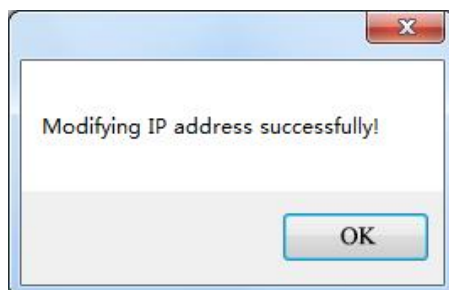

Fig.3.1.19 IP modified successfully
(2) After the matching is completed, a pop-up window prompts that the IP modification is successful, as shown in Fig.3.1.19.
(3) Click “OK” to complete the IP modification.